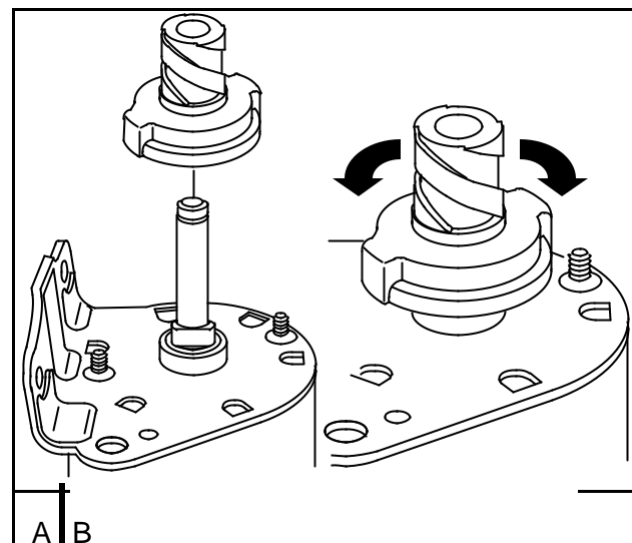

Fig. 59
1. Place starter clutch on starter shaft, Fig. 59 A, and rotate clutch until it drops into place, Fig. 59 B.